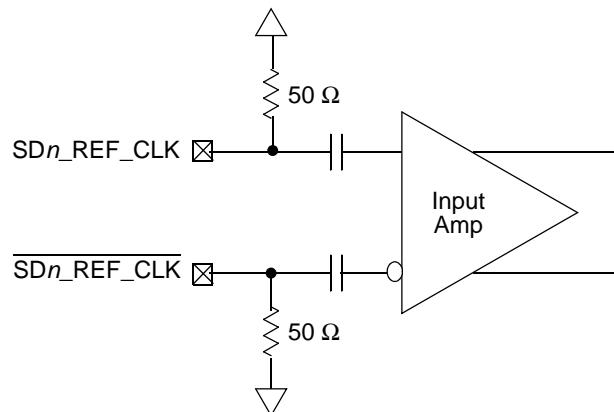

Figure 44. Receiver of SerDes Reference Clocks
Figure 44 shows a receiver reference diagram of the SerDes reference clocks. Characteristics are as follows:
- The SDn\_REF\_CLK and SDn\_REF\_CLK are internally AC-coupled differential inputs as shown in Figure 44. Each differential clock input (SDn\_REF\_CLK or SDn\_REF\_CLK) has on-chip 50- $\Omega$  termination to SGND\_SRDSn (xcorevss) followed by on-chip AC-coupling.